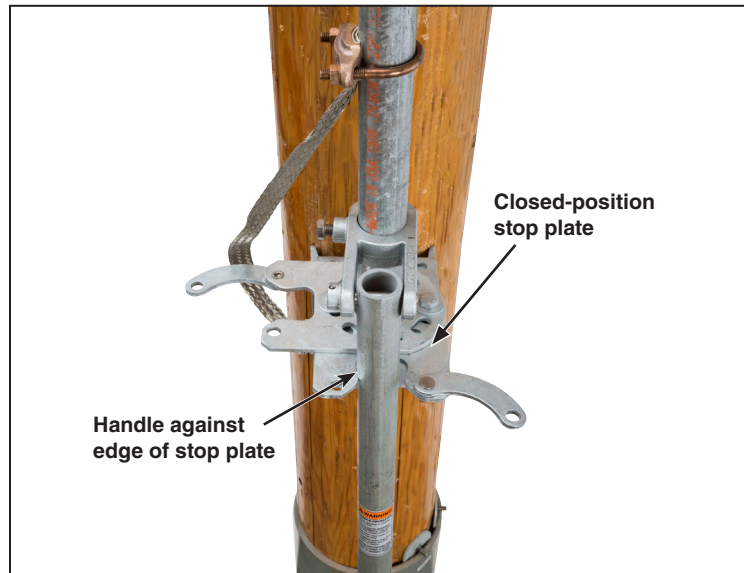

Figure 33. Adjust the closed-position stop plate.
- The stop plate holes are slotted to allow room for adjustment. Position the operating handle in the stop plate and turn the operating handle as far as it will go in the closed position. (Counterclockwise is standard on switches using the rotating operating mechanism.) The handle should be tight against the edge of the stop plate as shown in Figure 33.